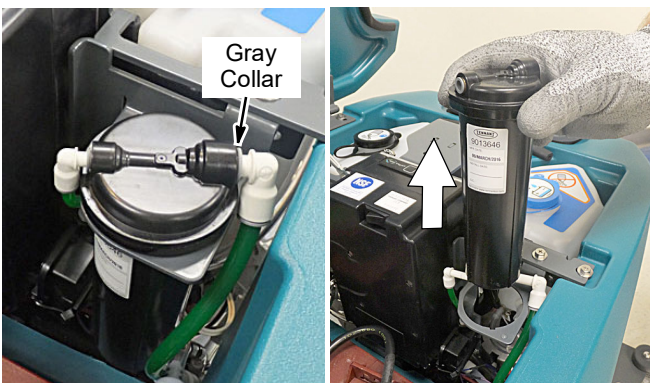

FIG. 93
3. Disconnect the two hose connectors from the top of the cartridge by pressing the gray collars inward and pulling the connectors outward (Figure 93). Lift cartridge to remove.